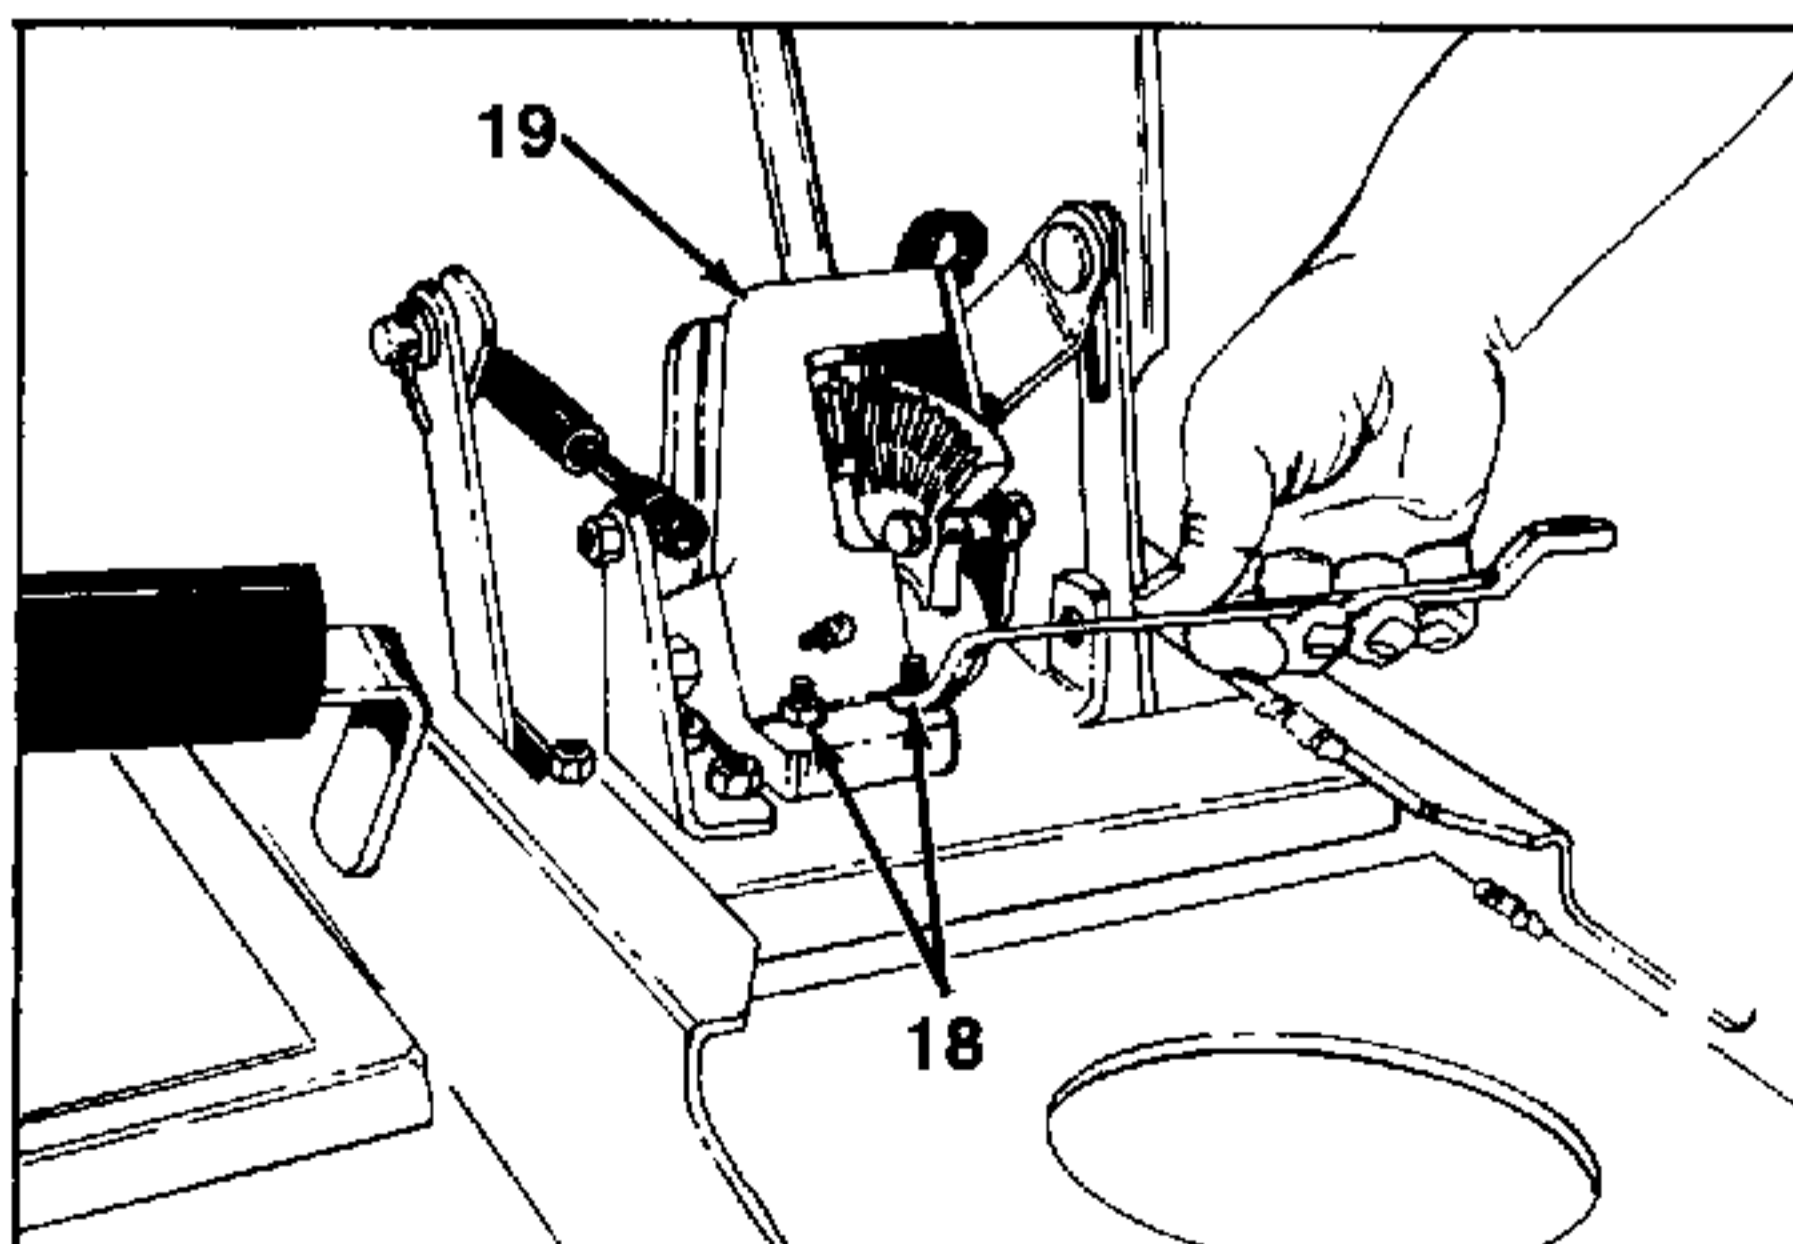

FIGURE 9.
12. Remove the steering assembly (Ref. 19) from the tractor frame by removing four hex nuts (Ref. 18). See figure 9.